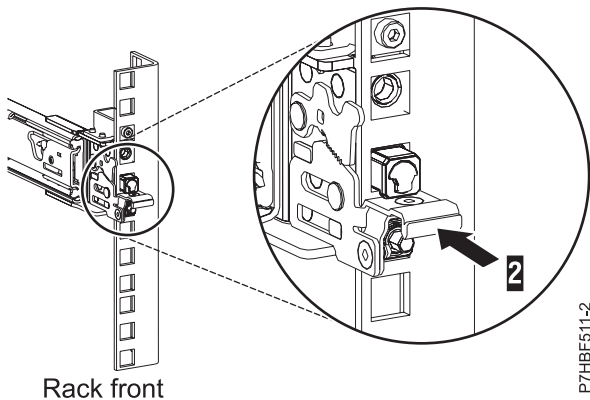

Figure 7. Rack front rail with latch seated
7. While pulling the slide rail forward, ensure that all three pins protrude through the rack holes, then push the front latch **(2)** all the way in, as shown in Figure 7.